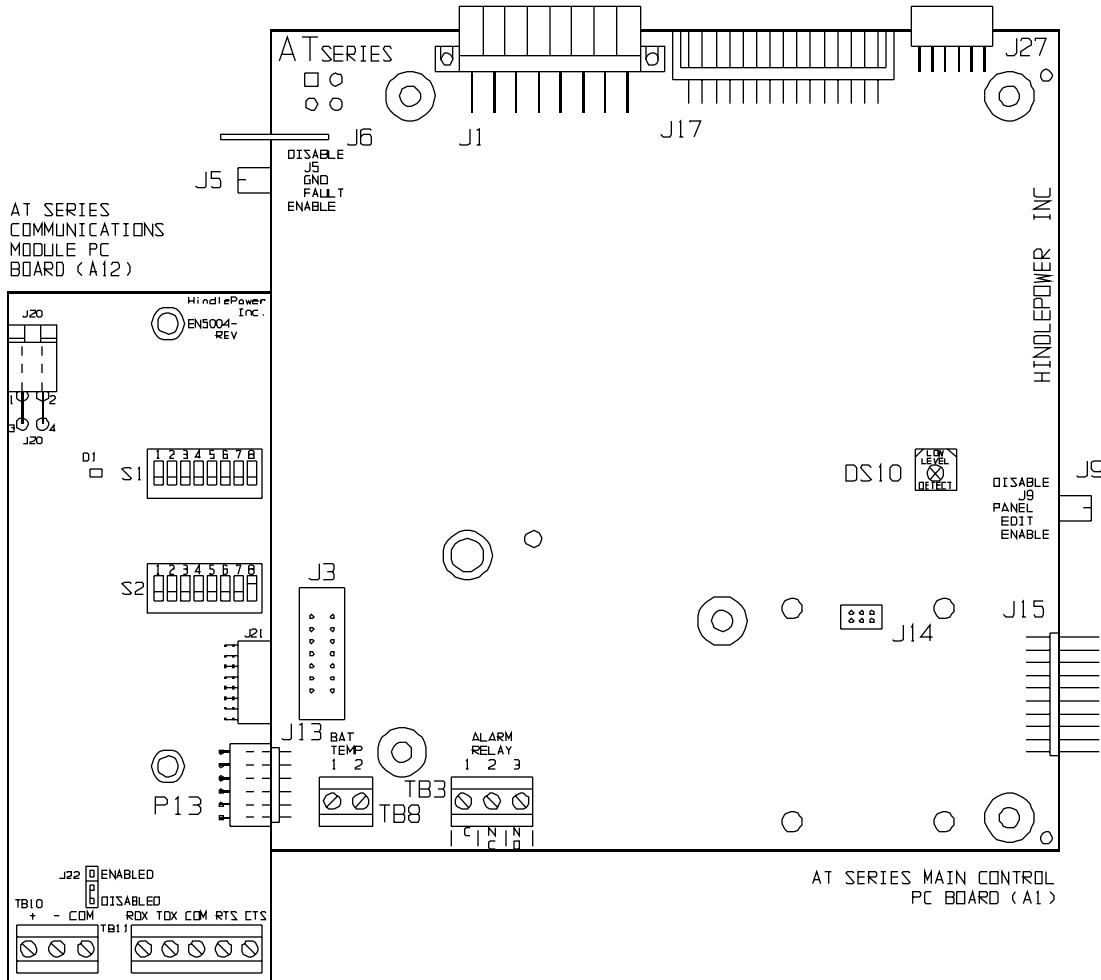

Figure 1
- Step 3** The EN5004-## communications module pc board (A12) mounts to the left of the EN5002-00 main control pc board (A1), with connector (P13) plugged into J13. Make sure that the pins on the connector line up. See **Figure 1**.